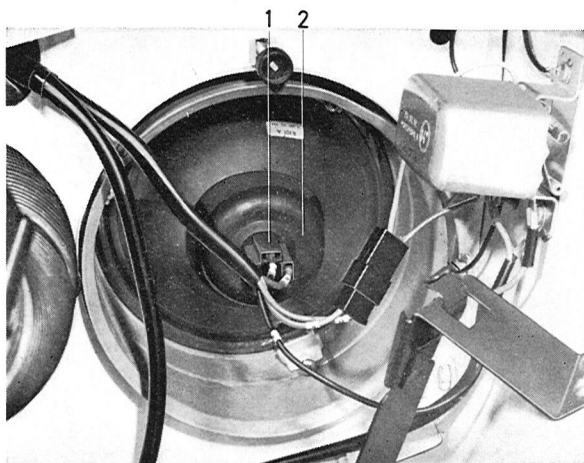

Fig. 3-108. Headlight, rear side
1. Disconnect the cables by pulling out the connector (1, Fig. 3-108), and remove the rubber cover underneath.